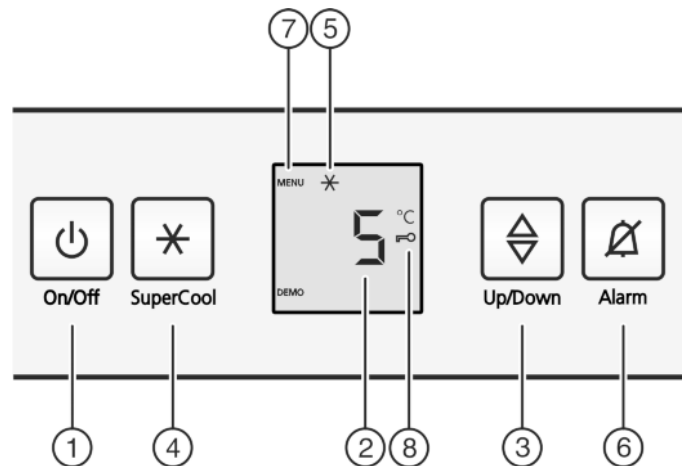

Fig. 2
- ▶ Press the On/Off button *Fig. 2 (1)*.
- ▶ Press the SuperCool button *Fig. 2 (4)* for about 5 seconds.
- ▷ The Menu symbol is shown on the display, *Fig. 2 (7)*.
- ▶ Confirm briefly with the SuperCool button *Fig. 2 (4)*.
- ▷ The child lock symbol, *Fig. 2 (8)*, lights up on the display.
- ▶ Briefly press the On/Off button *Fig. 2 (1)*.
- ▶ Press alarm button *Fig. 2 (6)*.
- ▶ Call up temperature function: press the setting button *Fig. 2 (3)*.
- ▶ Change the temperature in 1 °C steps: Press the setting button *Fig. 2 (3)* until the required temperature is indicated in the temperature display.
- ▶ Briefly press SuperCool button *Fig. 2 (4)*.
- ▷ The SuperCool *Fig. 2 (5)* symbol lights up in the display.